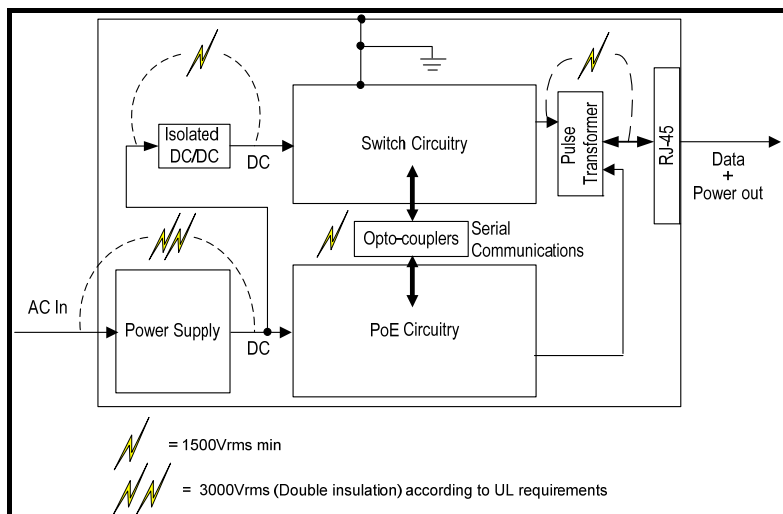

Figure 4: Switch Circuitry with a Single DC Source
- A single DC input (separate power supplies) for both the switch and PoE circuit; additional or integrated isolated DC-DC circuitry for the switch input and isolated serial communication port between the PoE circuitry and the switch's circuitry (see Figure 4).